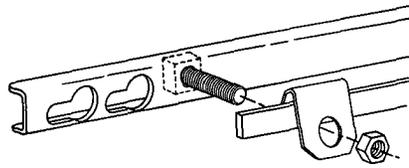

Figure 34 — External Bonding Assembly
- For External Bonding, the bolt, bonding clip, and nut must be applied to the (front) keyhole LOCKBAR assembly prior to its mating with the back LOCKBAR assembly. A special (third) hole is provided on either side of the front LOCKBAR assembly for this purpose. The bolt head is applied inside the LOCKBAR channel, the bonding clip and nut are applied to the bolt on the outside LOCKBAR face. Refer to Figure 34 for proper alignment of parts.
11.00 EXTERNAL BONDING (Fig. 34)